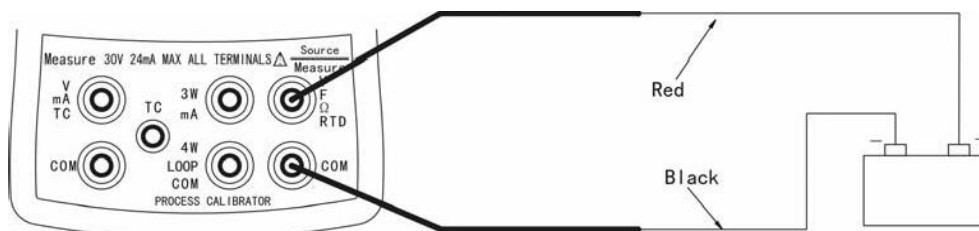

Figure5-4 Measuring Voltage (Lower Display)
- (1) Press  until the lower display shows "MEASURE".
- (2) Press  to select DC voltage until the display shows "V" or "mV".
- (3) Connect the test leads as shown in Figure5-4.